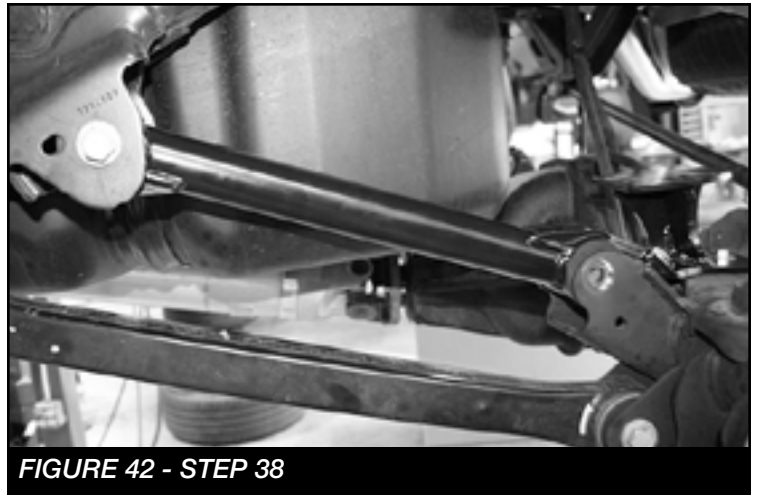

FIGURE 42 - STEP 38
38. Install the new FT44163BK (Upper Link Arms) into the factory rear axle mounts with the factory hardware. Then attach the arm to the frame mounts also with the factory hardware. Torque to 160 ft.-lbs. **SEE FIGURE 42**